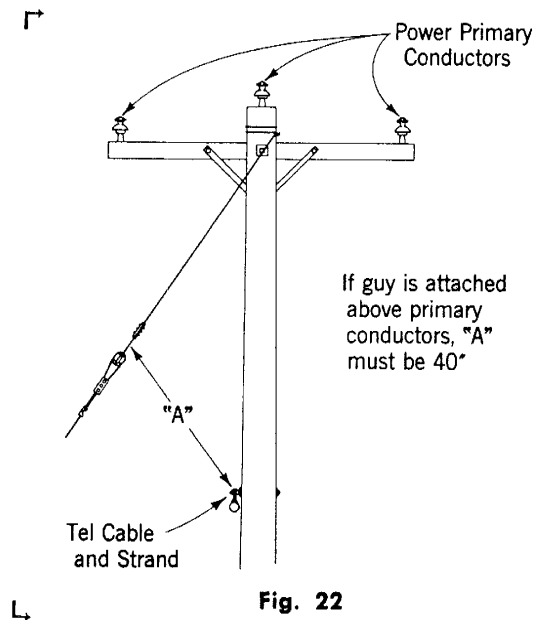

Fig. 22
9.01 If power side guys are attached above primary conductors, telephone wires or cables shall have at least 40 inches clearance from any part of such guys which lie between the nearest guy insulator and the pole.1 (See Fig. 22.)